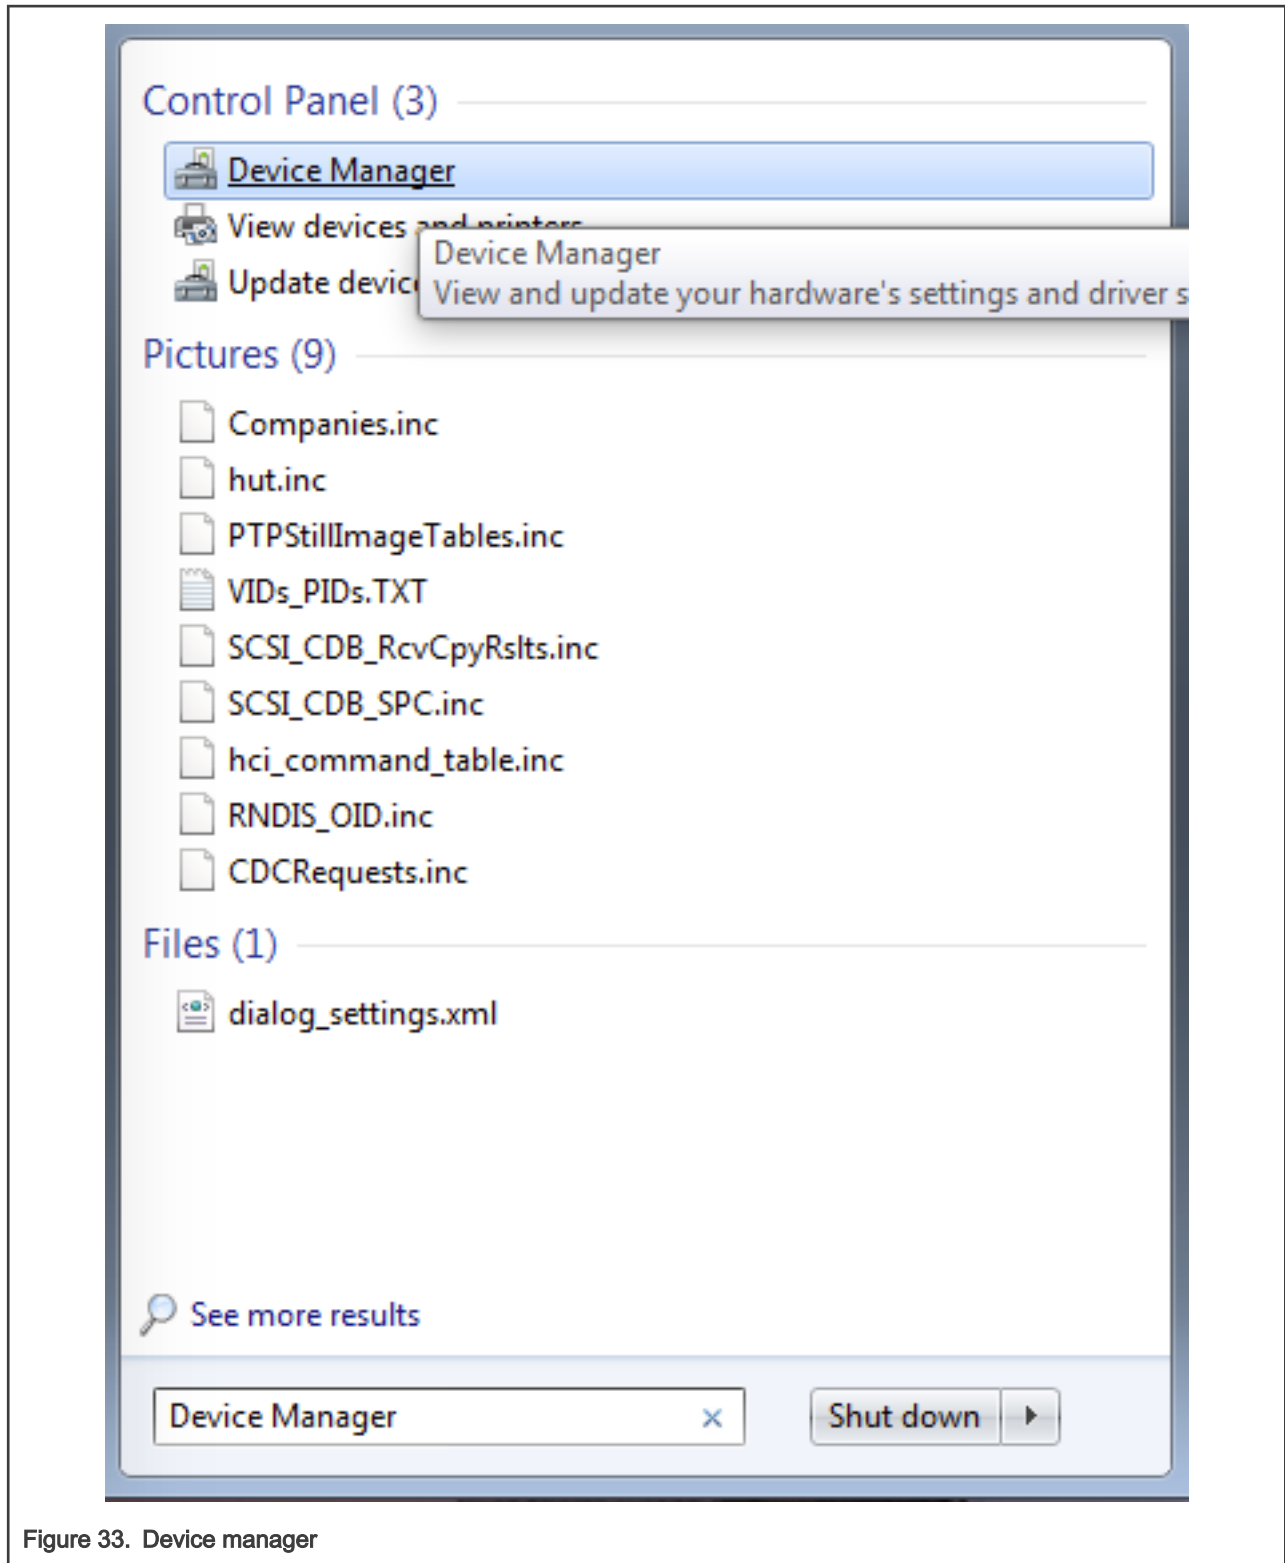

Figure 33. Device manager
1. To determine the COM port, open the Windows operating system Device Manager. This can be achieved by going to the Windows operating system Start menu and typing **Device Manager** in the search bar, as shown in Figure 33.